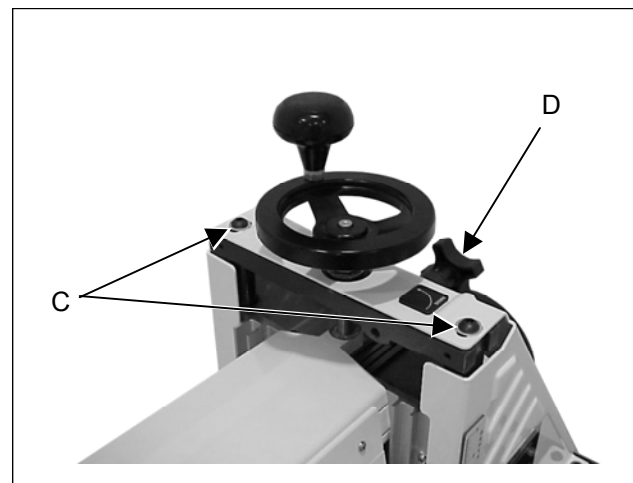

Figure 7
1. Loosen the two hex cap bolts (Figure 7, Item C).
3. Adjust the knob, (Figure 7, Item D) until the drum contacts the gauge equally along its entire surface. Turn the adjusting knob clockwise to lower the outboard end of the drum, and counterclockwise to raise the outboard end of the drum.
If a ridge is visible where the drum overlaps, loosen the two hex cap bolts (Figure 7, Item C) and turn the adjusting knob (Figure 7, Item D) slightly. Turn the adjusting knob clockwise to lower the outboard end of the drum and counterclockwise to raise it. Tighten the two hex cap bolts. Repeat this process until the ridge is gone and the entire board is sanded.